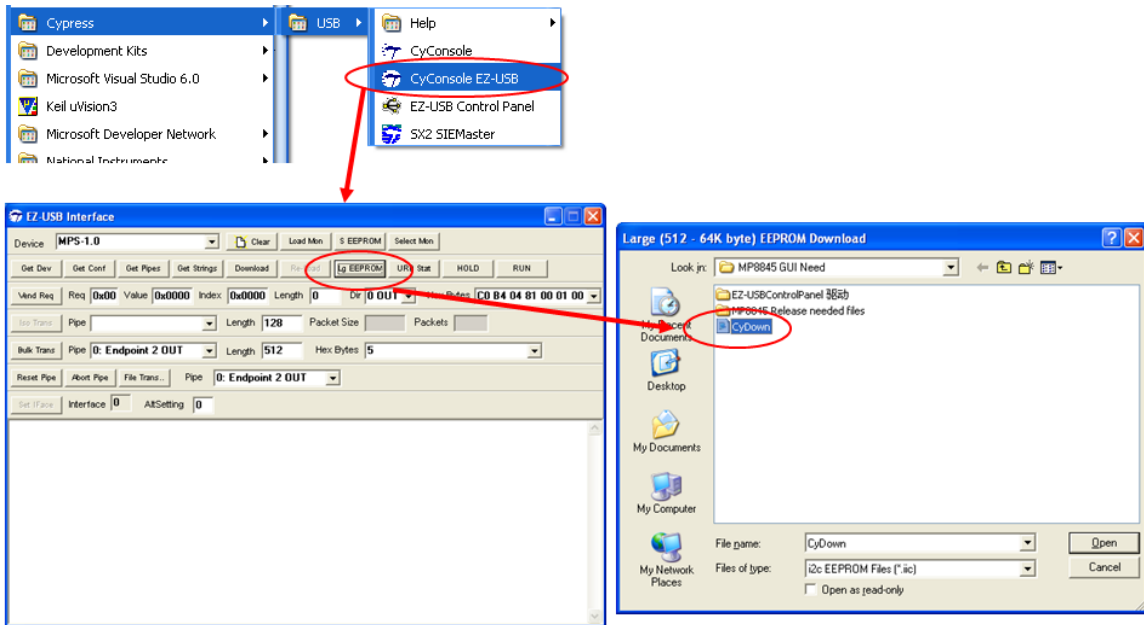

Figure 8—loading hardware program process
3. Connect I²C interface board to computer, and then load the hardware program to the board. Figure 8 shows the loading process.